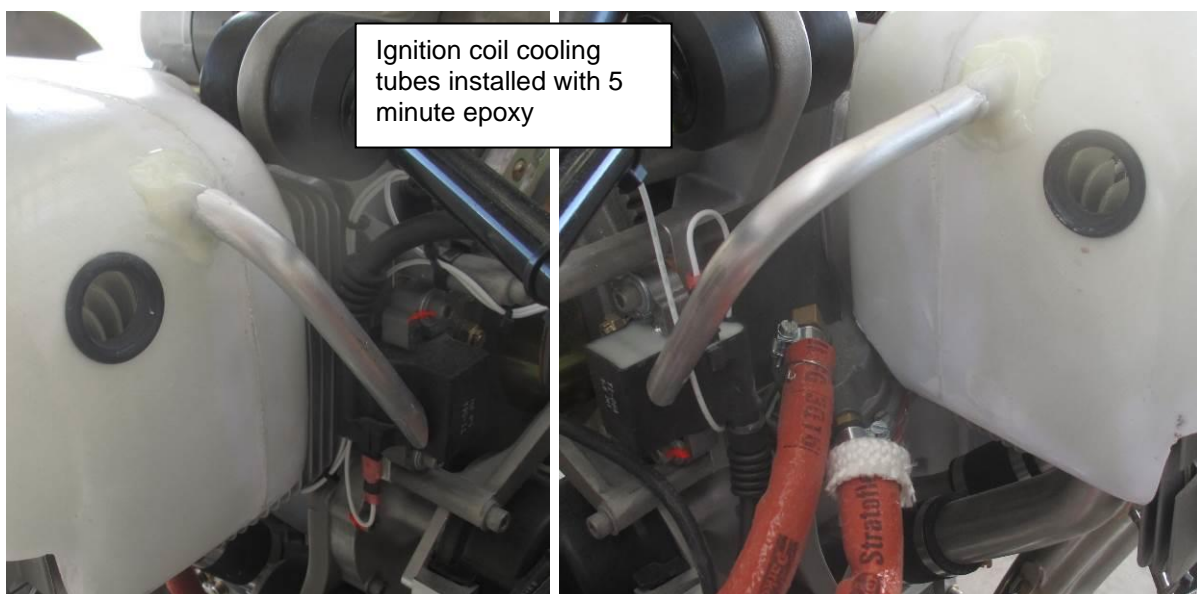

Figure 47: Ignition coil cooling tubes
- Tubes of approximately 12mm diameter are required to provide cooling air to the ignition coils -Figure 47.